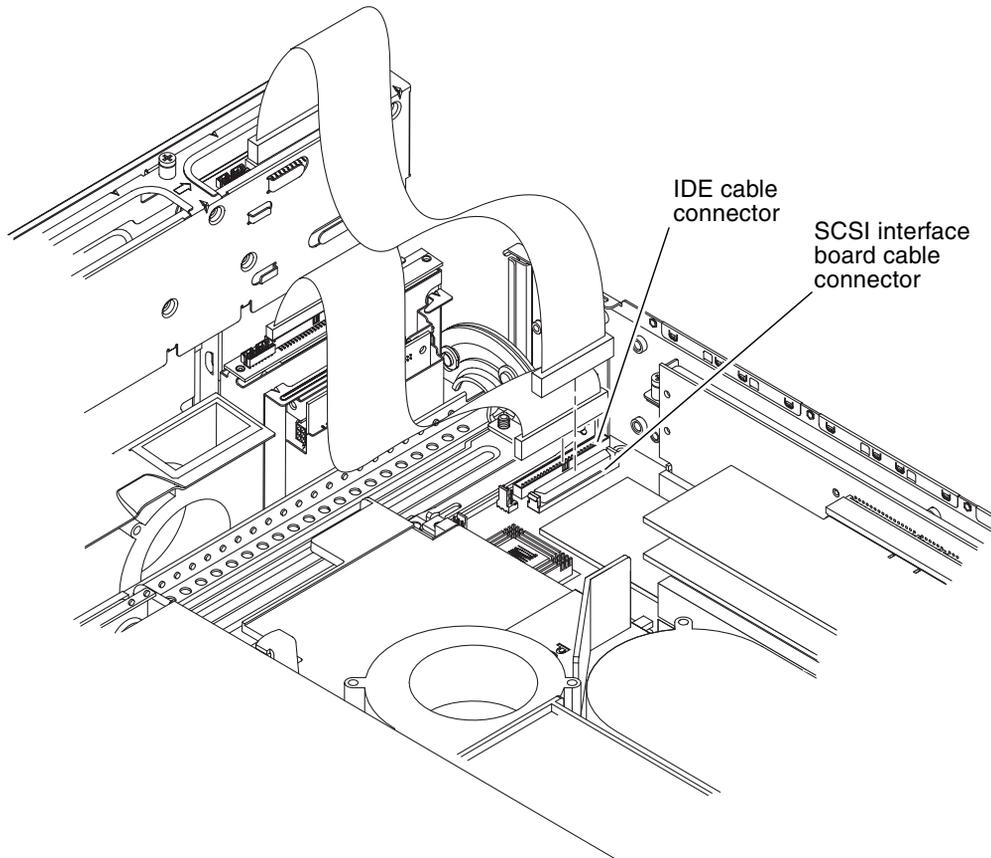

FIGURE 5-14 Removing the SCSI Interface Board Cable and the IDE Cable From the System Board
11. Disconnect the interface board SCSI and IDE cables from the system board (FIGURE 5-14).
See FIGURE 5-14 to locate the cables.